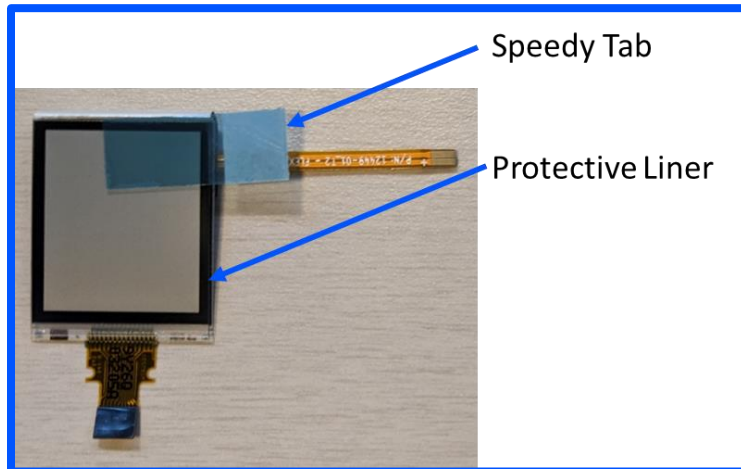

Figure 5. Identification of protective line and speedy tab.
- The protective liner should remain on the front lit display until its removal is necessary for final installation (refer to Figure 5).